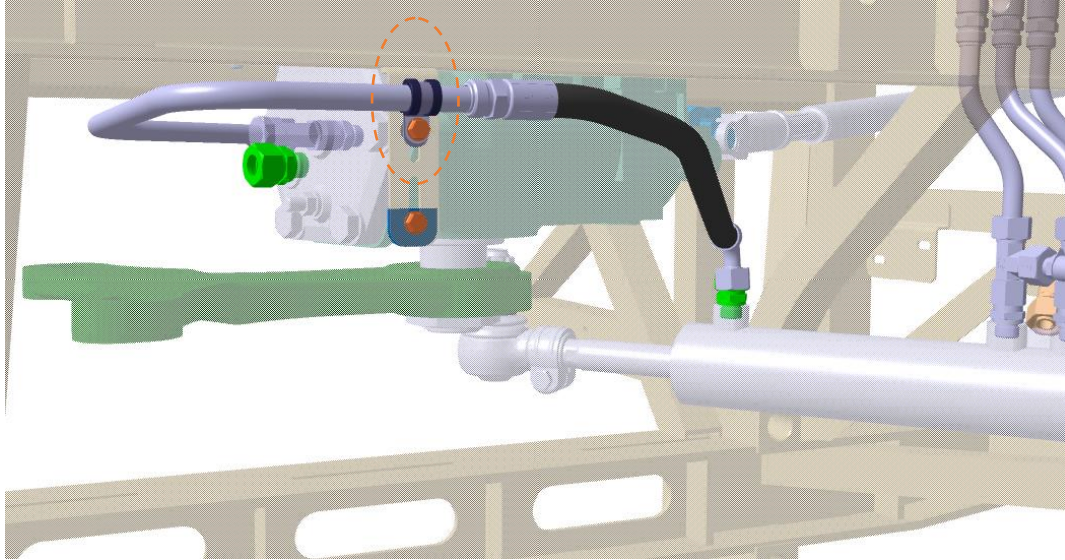

Figure-8
5. Fix the hose and pipe on the chassis with using MH020805Y numbered clip as shown in the picture below (Tightening torque value is **3.69 ft-lb / 5Nm**). (See **Figure-8**)